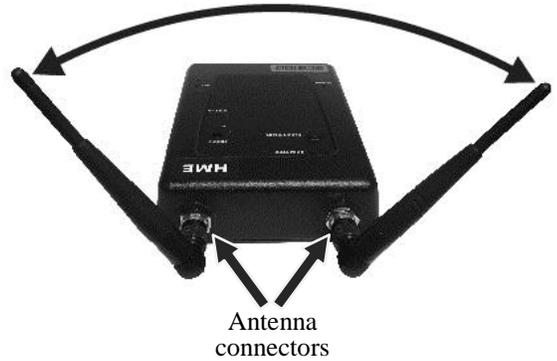

Figure 3. SCB100 Antenna Setup
| Figure 3. | SCB100 Antenna Setup | 8 |
- Tighten the antennas, and angle them as shown in **Figure 3**.